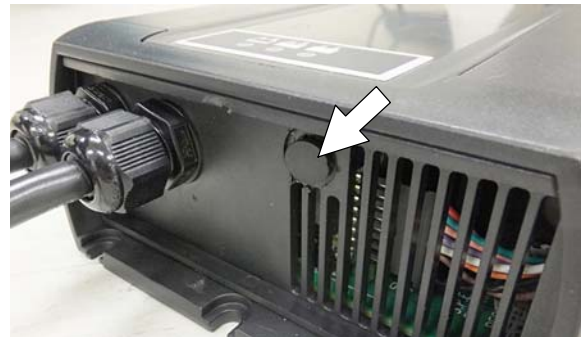

FIG. 114
5. Remove the black cap from bottom side of charger to access the profile dial (Figure 114)